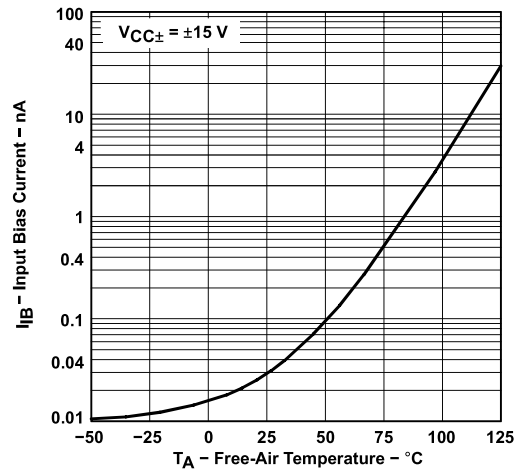

Figure 6-12. Input Bias Current vs Free-Air Temperature
- (1) All characteristics are measured under open-loop conditions with zero common-mode input voltage unless otherwise specified. Full range for  $T_A$  is  $0^\circ\text{C}$  to  $70^\circ\text{C}$  for TL06xC, TL06xAC, and TL06xBC and  $-40^\circ\text{C}$  to  $85^\circ\text{C}$  for TL06xI.
- (2) Input bias currents of an FET-input operational amplifier are normal junction reverse currents, which are temperature sensitive, as shown in Figure 6-12. Pulse techniques are used to maintain the junction temperature as close to the ambient temperature as possible.
- (3) Specified by design and characterization; not production tested.
- (1) All characteristics are measured under open-loop conditions with zero common-mode input voltage, unless otherwise specified. Full range for  $T_A$  is  $0^\circ\text{C}$  to  $70^\circ\text{C}$  for TL06xC, TL06xAC, and TL06xBC and  $-40^\circ\text{C}$  to  $85^\circ\text{C}$  for TL06xl.
- (3) Assured by design and characterization; not production tested.
- (1) This parameter is not production tested.
- (2) All characteristics are measured under open-loop conditions, with zero common-mode voltage, unless otherwise specified.
- (3) Input bias currents of an FET-input operational amplifier are normal junction reverse currents, which are temperature sensitive, as shown in Figure 6-12. Pulse techniques are used to maintain the junction temperature as close to the ambient temperature as possible.
- (4) Specified by design and characterization; not production tested.